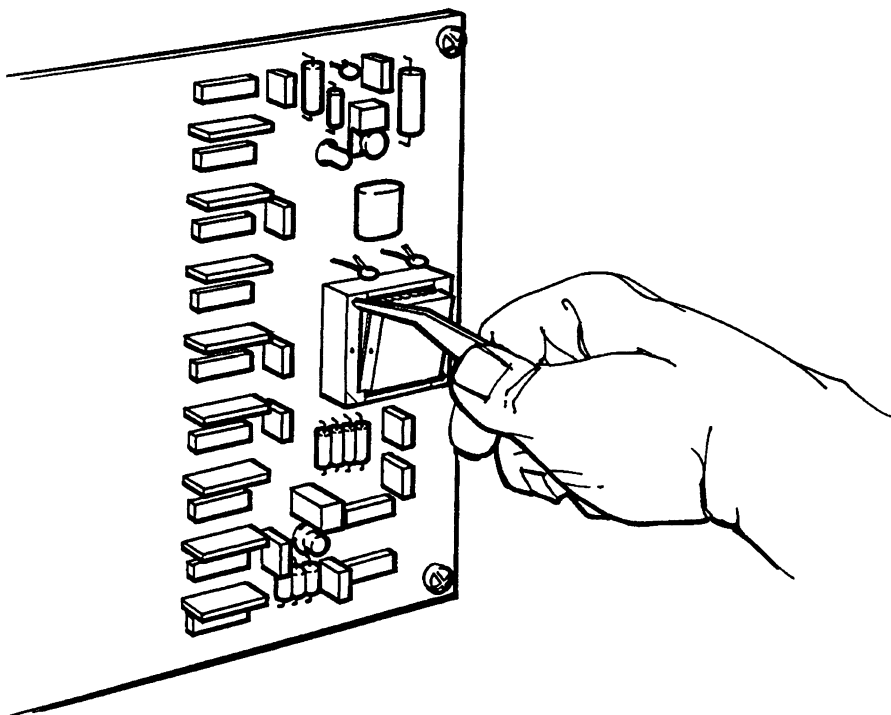

Figure 12 Removing 081019 Firmware from Control PCB
1. Remove 081019 firmware from the control board socket by using the extraction tool (027338) included in the kit. See Fig. 12.